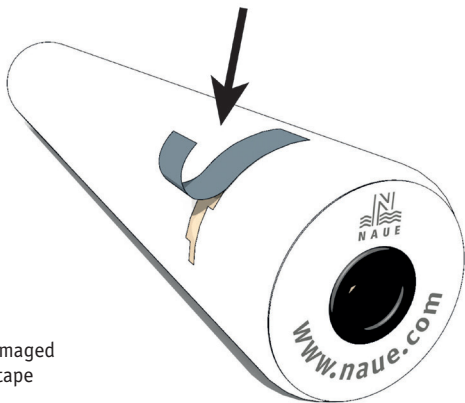

Fig. 2 Bonding the damaged packing with a tape
3.3 In the unlikely case of a damage to the wrapping, the damaged area is either fixed with tape (Fig. 2) or is fully replaced.
8.4 In the unlikely case of damage to the wrapping, the damaged area is either fixed with tape (fig. 2) or is fully replaced.